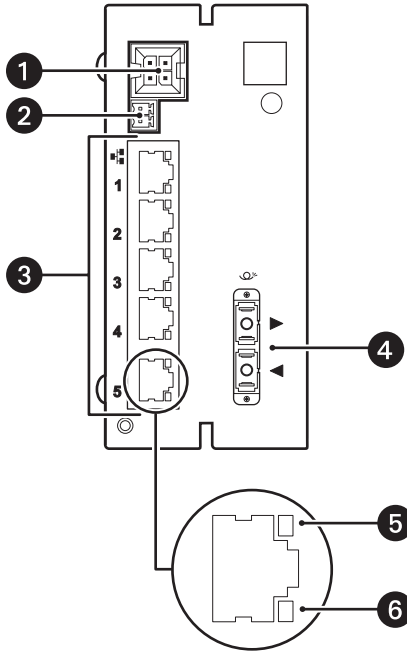

Figure 3. Rear Panel of FX82051 Module (SC Fiber Connector Shown)
Figure 3 illustrates the rear panel of the FX82051 module.
- LED indicators on the rear panel (refer to Figure 3) allow you to monitor RJ-45 10BASE-T/100BASE-TX port status. Refer to Table C for information about the rear-panel indicators and associated troubleshooting guidelines.